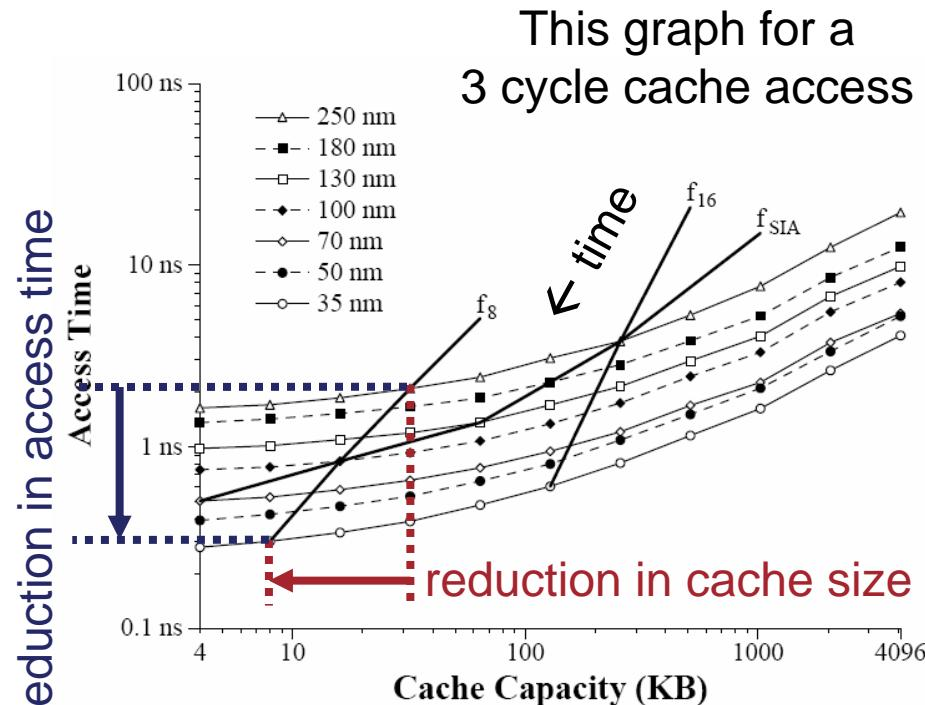

Figure 5: Access time for various L1 data cache capacities.
- Figure 5 from “Clock Rate versus IPC: The End of the Road for Conventional Microarchitectures Vikas Agarwal, M.S. Hrishikesh, Stephen W. Keckler, and Doug Burger